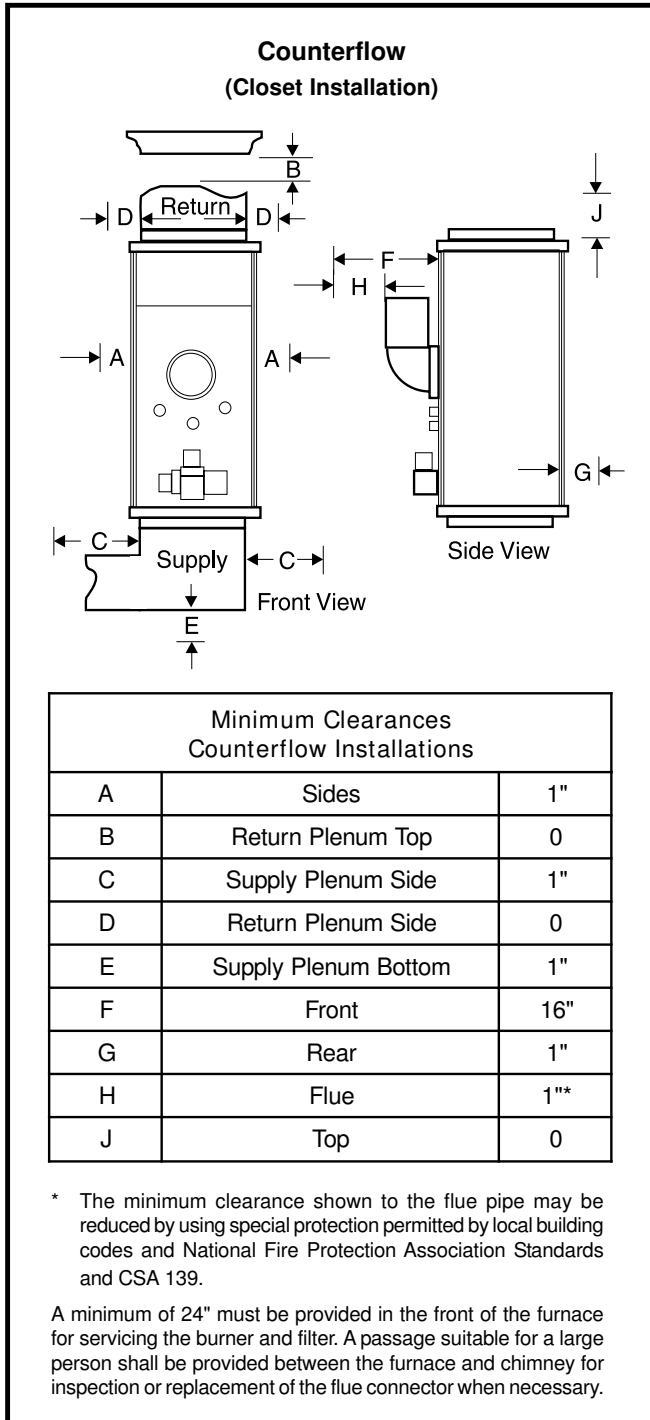
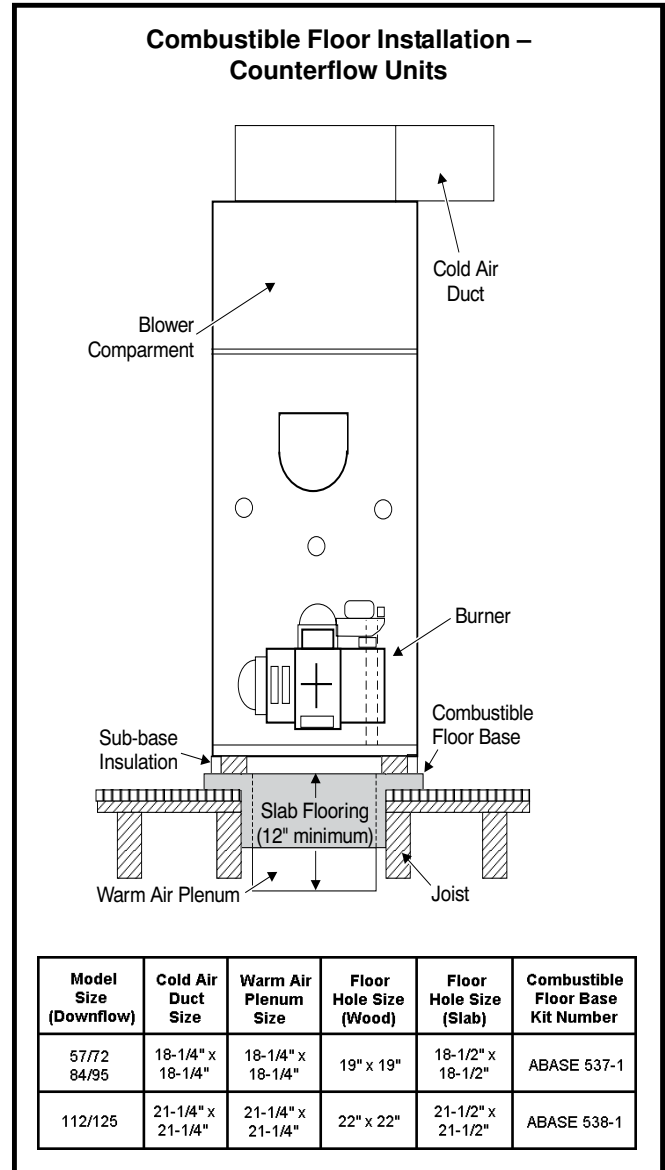

Figure 2
Figure 3
See Table 2 on page 4 for a complete listing of the minimum clearances required for basement type and upflow installations. See Figure 2 on page 5 for the minimum clearances required for horizontal installations and Figure 3 on page 5 for the minimum clearances required for counterflow installations. **When accessibility clearances are greater than fire protection clearances, the accessibility clearances take precedence.**
3. Refer to Figure 2 for minimum clearances required.
When installing a counterflow unit on combustible flooring, a combustible floor base must be used. See Figure 3 on page 6 for more information on using a combustible floor base kit.